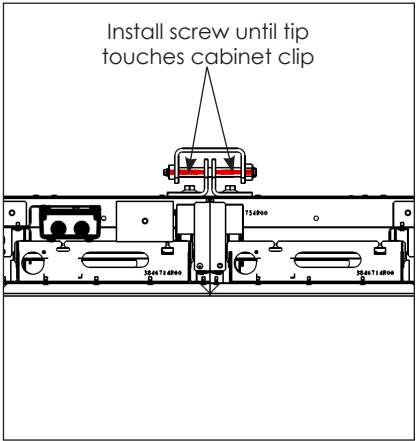

Figure 9: Install Self-Drilling Screws
- 10. Install the supplied 1/4" self-drilling screws to limit side-to-side movement. Refer to **Figure 9**. Drive the screws into the wall channel from each side until the screw tip touches the cabinet clips. Refer to the Shop Drawing for installation locations.